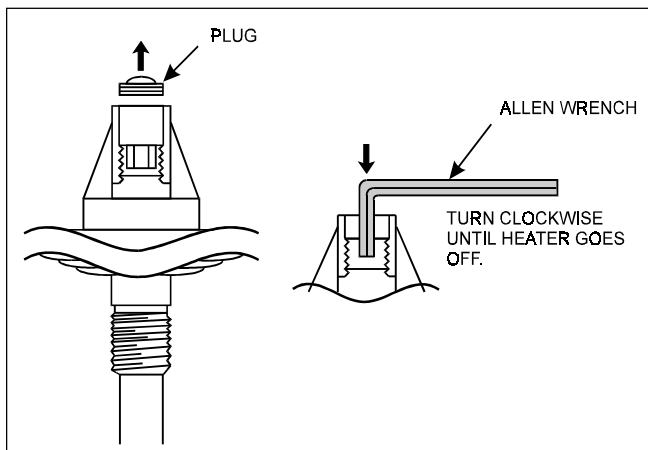

Figure 19. Pressure switch adjustment.
- b. The system's water flow exceeds 125 GPM (474 LPM), and requires a manual bypass valve for proper operation (see Figure 19).